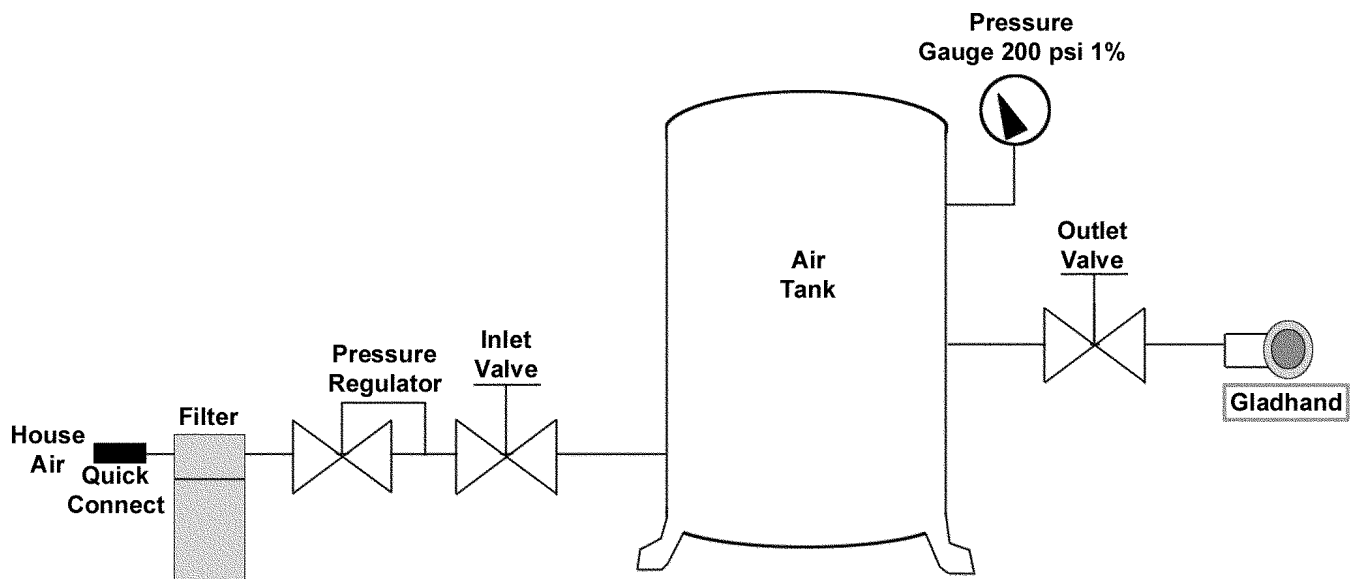

Figure 2-1 – Emergency Brake Test Equipment Setup
Air supply: 0-85 psig/0-600 kpa Quick-opening valve Glad-hand fitting Volume: At least 1 liter upstream of glad-hand, downstream of regulator. Pressure regulator: Adjustable 0-85 psig/0-600 kpa, setable to 1 psig/6.895 kpa, stable to 0.1 psig/0.690 kpa at no flow	See Figure 2-1
Air tank: 8 to 20 gallon/34 to 340 liter capacity with Glad-hand coupling attached directly to inspection port	See Figure 2-1
1. Refer to Figure 2-1 below for Test Equipment Setup.